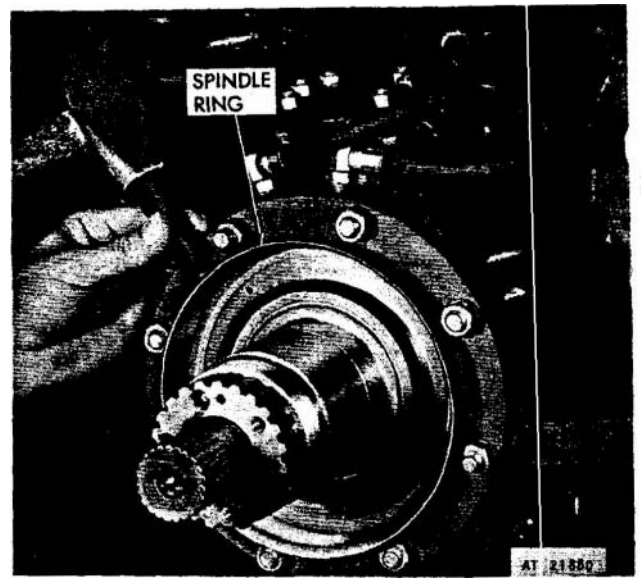

Figure 2-227. Spindle ring removal.
(22) Using a wooden block and hammer remove spindle ring by tapping it around its periphery (fig 2-227).